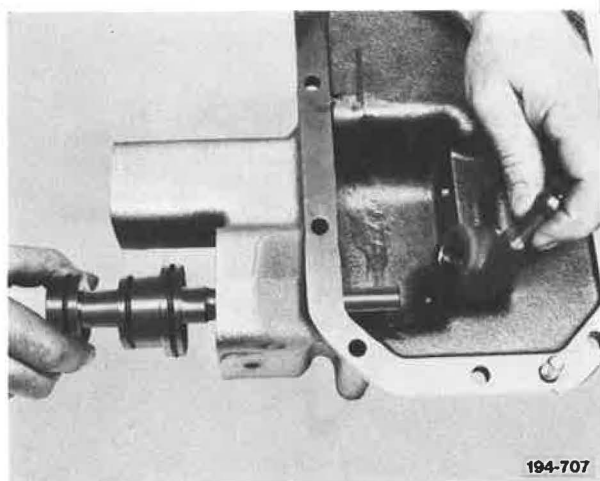

Figure 5-783. Removing Shift Rail and Shifter
19. Slide Hi/Direct shift rail rearward out of cover, and, as it moves, remove Hi/Direct shifter through bottom opening. See Figure 5-783.